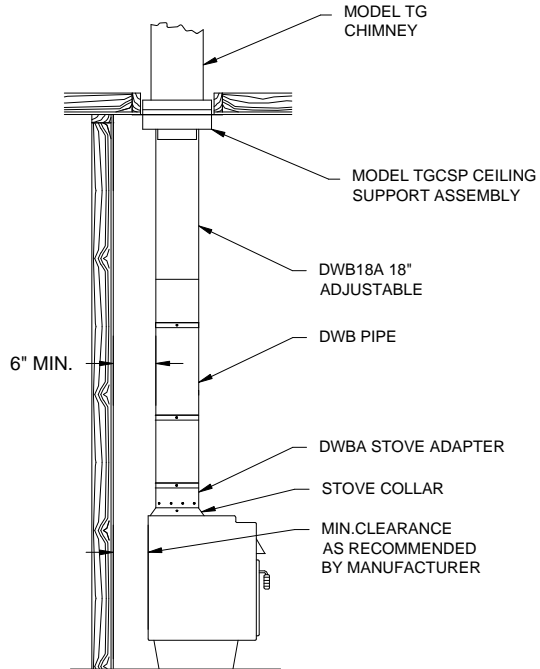

FIG. 2
4. If Double Wall Black pipe sections (DWB) are to be used, the Double Wall Black Adapter (DWBA) is required to be attached at the stove collar. It may be necessary to attach the adjustable length (DWB18A) section to the chimney ceiling support prior to installing the sections. Secure the DWB18A to the ceiling support with sheet metal screws. Slide one section of DWB into the DWB18A to allow the second section of DWB to be positioned over the DWBA. The first section can then be slid down to engage the second section. Secure all joints with sheet metal screws (See **FIG. 2**).